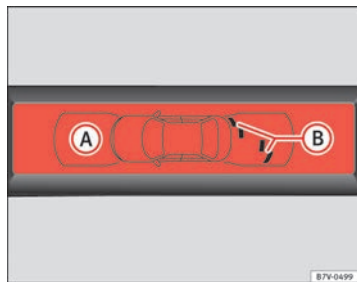

Fig. 144 On-screen OPS display: (A) an obstacle has been detected in the segment. (B) zone recorded behind the vehicle.
The zone in which obstacles are recognised runs to a distance of around 120 cm from the front of the vehicle and up to 60 cm to the side ⇒ fig. 144 (B). Behind the vehicle, the zone analysed reaches a distance of up to 160 cm and around 60 cm to the sides ⇒ fig. 143 (C).
The image displayed represents the supervised zones in several segments. As the vehicle moves closer to an obstacle, the segment moves closer to the vehicle displayed (B) and ⇒ fig. 144 (A). When the penultimate segment is displayed, this means that the vehicle has reached the collision zone. **Stop the vehicle!** ►